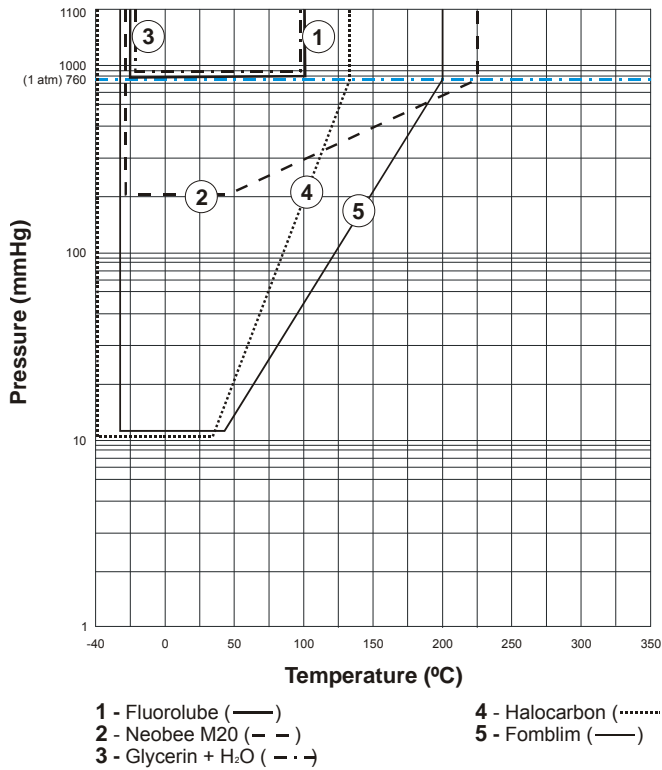

Figure 2.3 – Pressure x Temperature Curve (1)
Table 2.4 shows the filling fluids used by Smar with some physical properties and types of application. On Figures 2.3 and 2.4 the Steam Pressure curves (mmHg) are shown against the Temperature (°C) of these fluids.
Legend: (1) Propylene Glycol Diester of Octanoato / Decanoato; (2) N.A. – Nonapplicable; (3) Consult graphs in the Figures 2.3 and 2.4 below when the vacuum pressure is known.